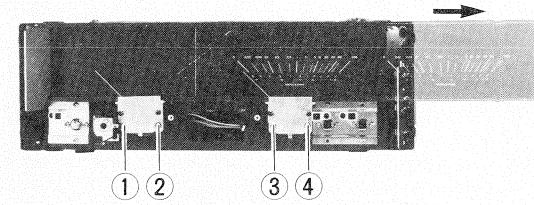

Fig. 5
2. Remove seven screws ① – ⑦ of the dial back panel.
4. Remove two screws ⑧ – ⑨ on the mask plate, and remove of the lamp house of right side.
5. Remove of the meter scale in this manner shown in Fig. 5.
6. Remove mounting screws ① – ④ of the power meter.